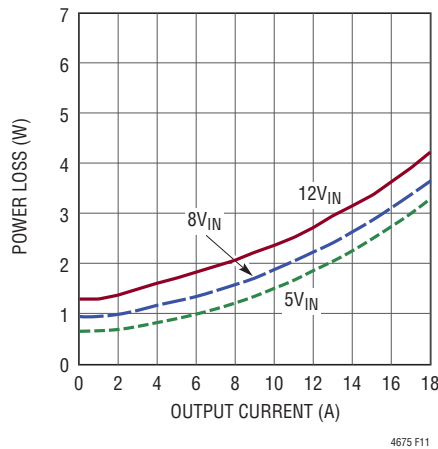
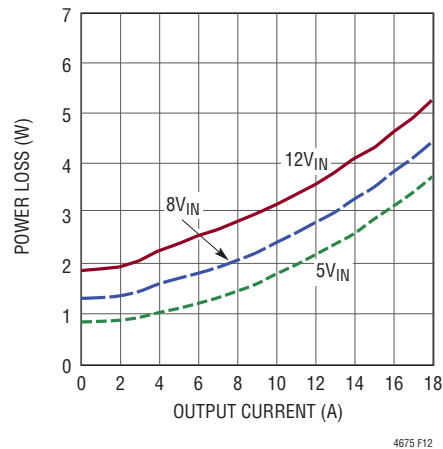
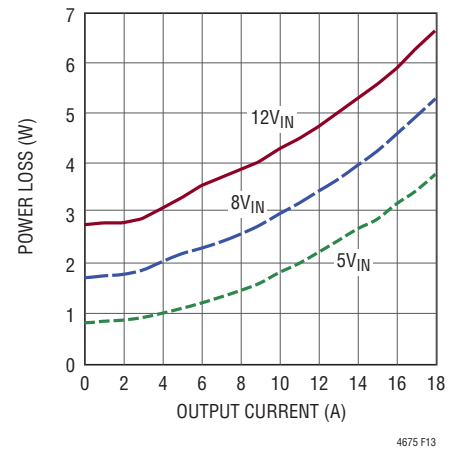

Figure 11. 1VOUT Power Loss Curve
Figure 12. 1.8VOUT Power Loss Curve
Figure 13. 3.3VOUT Power Loss Curve
The 1V, 1.8V and 3.3V power loss curves in Figure 11, Figure 12 and Figure 13 respectively can be used in coordination with the load current derating curves in Figures 14 to 25 for calculating an approximate  $\theta_{JA}$  thermal resistance for the LTM4675 with various heat sinking and air flow conditions. These thermal resistances represent demonstrated performance of the LTM4675
1.8VOUT power loss curve at 12A (Figure 12), with the 1.125 multiplying factor at 65°C ambient (from Table 14). If the 65°C ambient temperature is subtracted from the 120°C junction temperature, then the difference of 55°C divided by 4.05W yields a thermal resistance,  $\theta_{JA}$ , of 13.6°C/W—in good agreement with Table 16. Table 15, Table 16 and Table 17 provide equivalent thermal resistances for 1V, 1.8V and 3.3V outputs with and without air flow and heat sinking. The derived thermal resistances in Table 15, Table 16 and Table 17 for the various conditions can be multiplied by the calculated power loss as a function of ambient temperature to derive temperature rise above ambient, thus maximum junction temperature. Room temperature power loss can be derived from the efficiency curves in the Typical Performance Characteristics section and adjusted with ambient temperature multiplicative factors from Table 14.